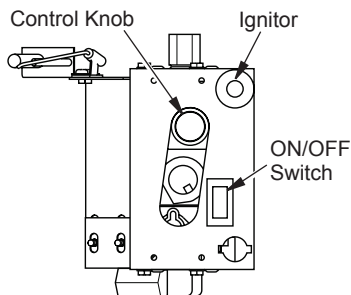

Figure 11 - Control Knob and Ignitor Button
4. Press in and turn control knob clockwise ↻ to the OFF position (see Figure 11).
5. Wait five (5) minutes to clear out any gas. Then smell for gas, including near the floor. If you smell gas, STOP! Follow “B” in the safety information, page 10. If you don’t smell gas, go to the next step.
6. Press in and turn control knob counterclockwise ↻ to the PILOT position. Press in control knob for five (5) seconds (see Figure 11).